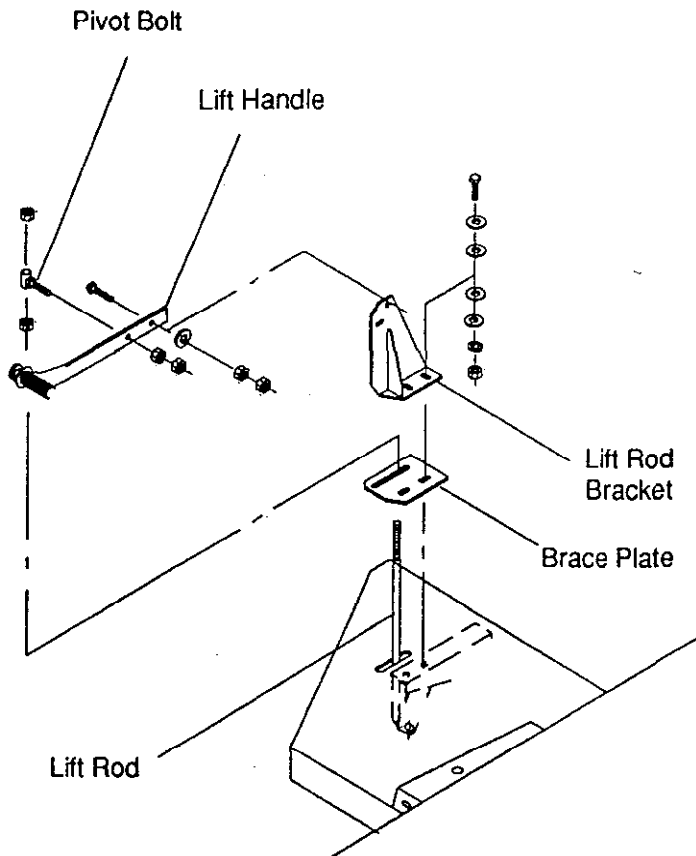

Figure 2
7. Mount the brace plate and the lift rod bracket to the top of the main frame. Use 1/2" x 2" bolts with hardware as shown in Fig. 2. and secure.
10. Slide the pivot bolt over the lift rod and attach to the lift handle as shown in Fig. 2. Secure nuts.
LIFT HANDLE (Fig. 2)